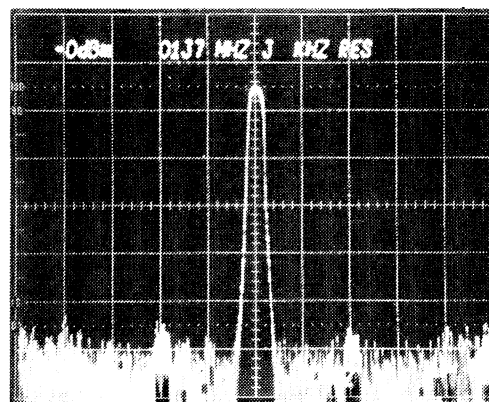

Figure 4-4 DUAL VCO 90 MHz to 1080 MHz Output
21. Connect Spectrum Analyzer to J4103 on the High Loop. Verify output level is -20 dBm ( $\pm 5$  dB) at 1088 MHz. (Ref. Figure 4-4)
22. Using Keyboard (18) select RF 050.0000 MHz. With Spectrum Analyzer set at 10 kHz/division and 140 MHz, center frequency, verify the High Loop output level is -20 dBm ( $\pm 5$  dB).